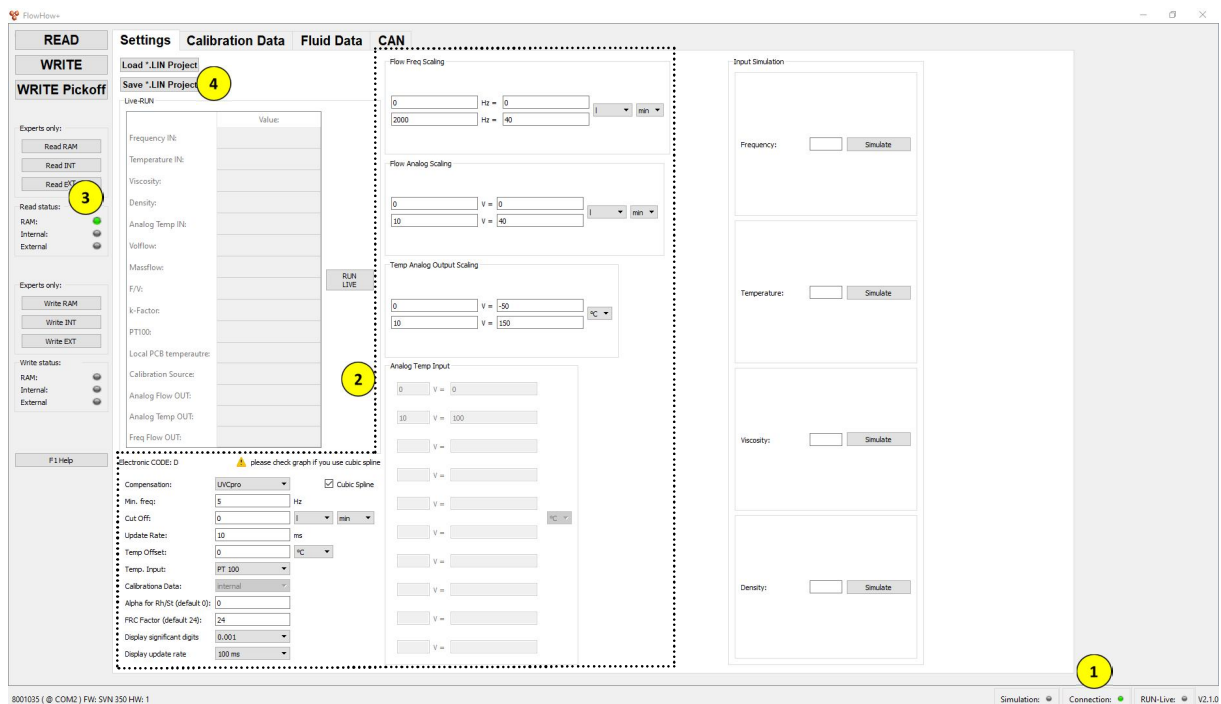

Fig. 4 Screen appearing after readout of the information contained in the Electronics
- ... the status LED "Connection" lights up green (1). [Fig. 4 ]
- ... the data fields (2) [Fig. 4 ] are automatically filled with the stored parameters.
- ... the status LED "Read Status" lights up green (3). [Fig. 4 ]
*"Save \*. Press and save LIN Project" (4) [Fig. 4 ]*